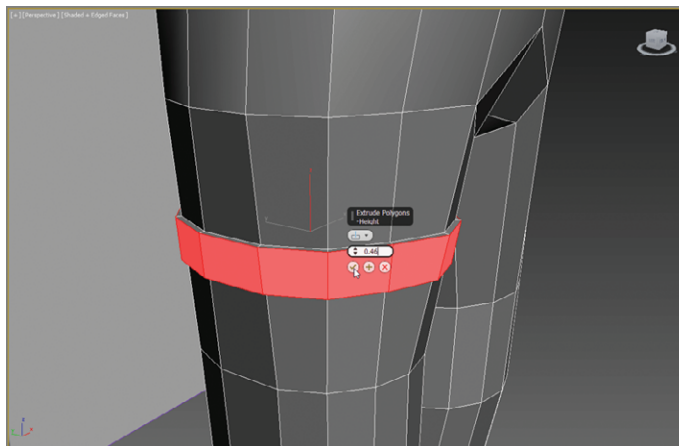

FIGURE 8.13 Extrude polygons to create a strap for the leg.
7. Then select the Graphite Modeling Tools tab. Enter Polygon mode > Polygons tab > Extrude > Extrude Settings, change Extrusion Type to Local Normal, and enter a Height value of 0.4, as shown in Figure 8.13. Then click OK.